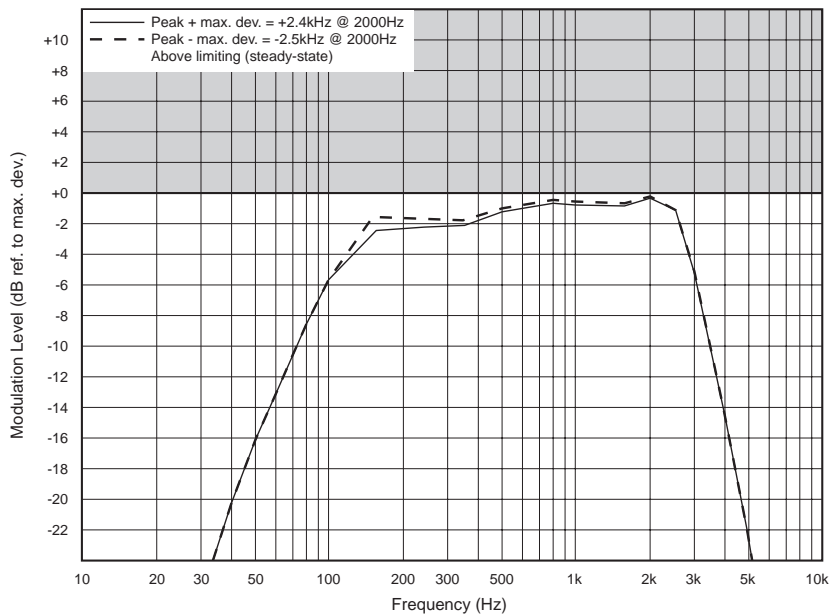

Figure 4.3 T856/857 Limiting Response
If the T856/857 has been correctly adjusted, the pre-emphasis and limiting responses should closely match those shown in Figure 4.2 and Figure 4.3 respectively.
- The response should closely match that shown in Figure 4.3.